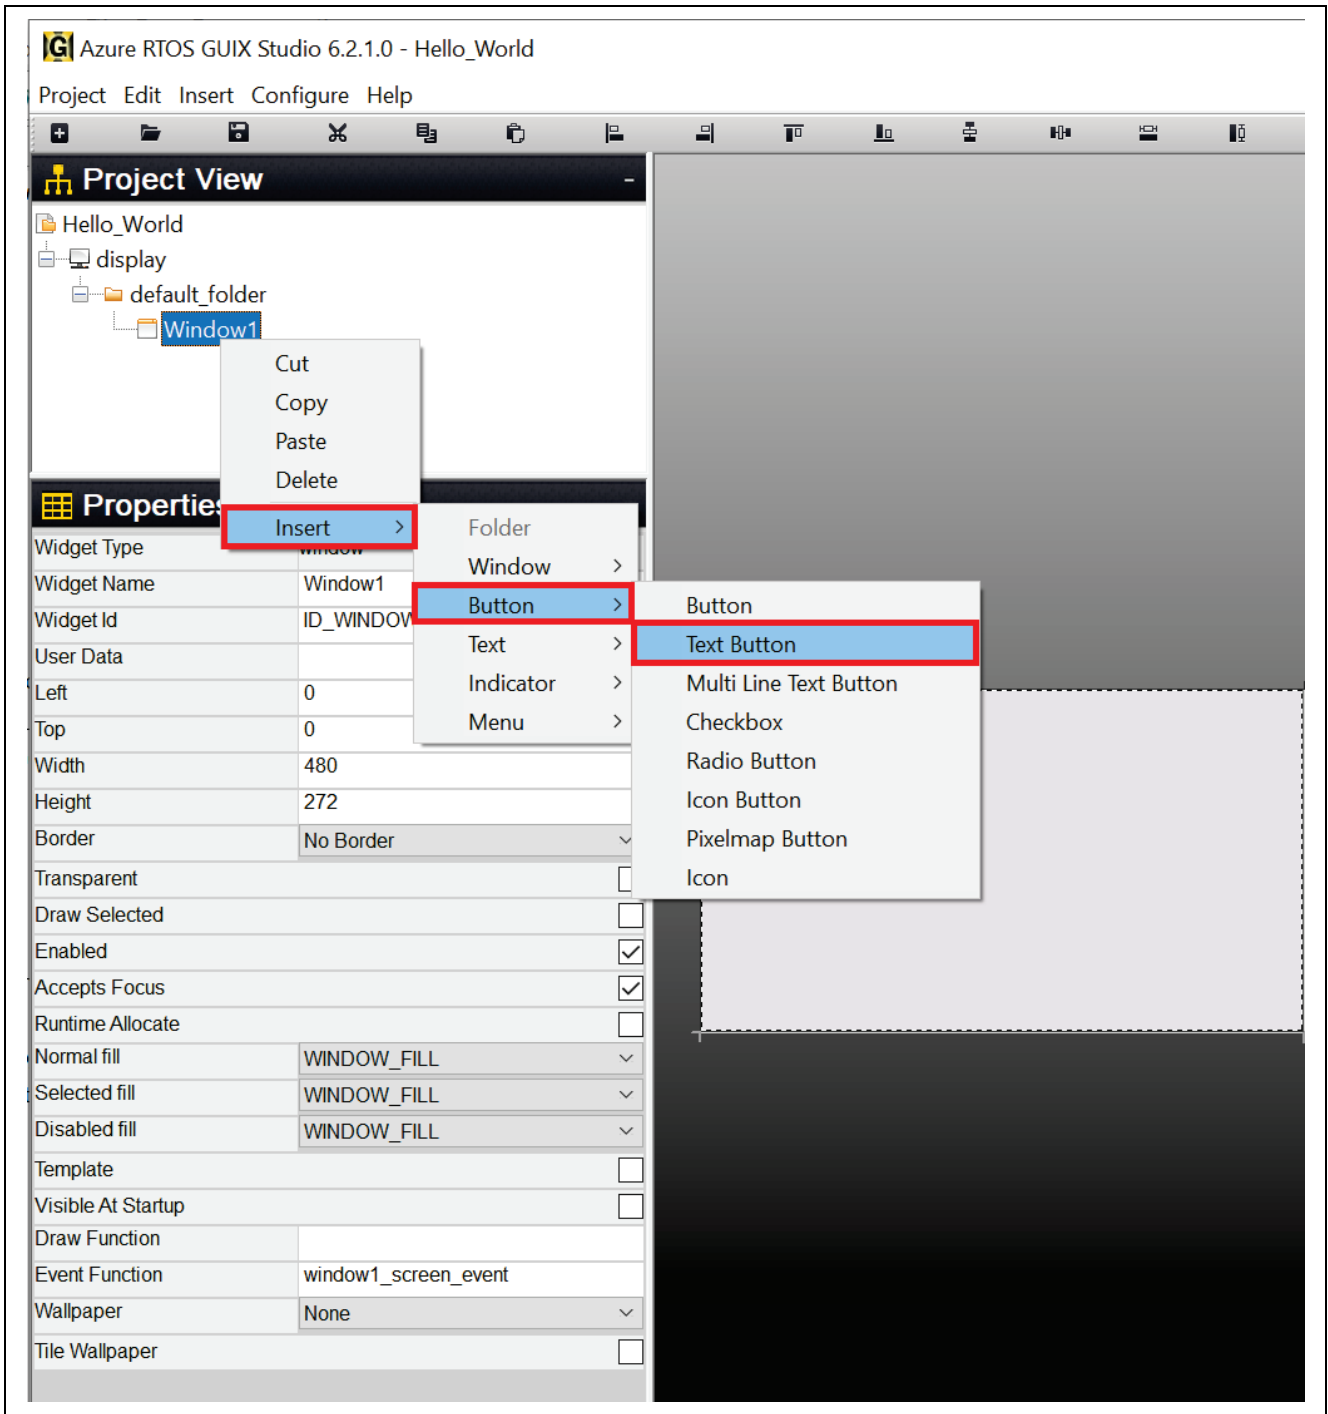

Figure 48. Insert Text Button
11. Right-click on **Window1** to insert a **Text Button** and follow Figure 48.